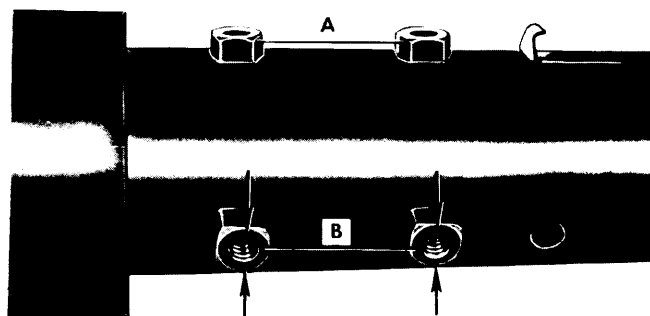

Fig. 2 Correct Installation of Steering Column in a Vise
**Disassembly** – 1) Remove four dash panel bracket-to-column screws and lay bracket in safe place to prevent damage to mounting capsules. Place column in a vise using both weld nuts of set "A" or "B". **CAUTION** – Do not place column in vise by clamping onto only one nut or by clamping onto sides of nut not indicated by arrows in Fig. 2.
**Disassembly** - 1) Remove four dash panel bracket-to-column screws and lay bracket in safe place to prevent damage to mounting capsules. Place column in a vise using both weld nuts of set "A" and "B" as shown in Fig. 2. **CAUTION** - Do not place column in vise by clamping onto only one nut or by clamping onto sides of nut not indicated by arrows.